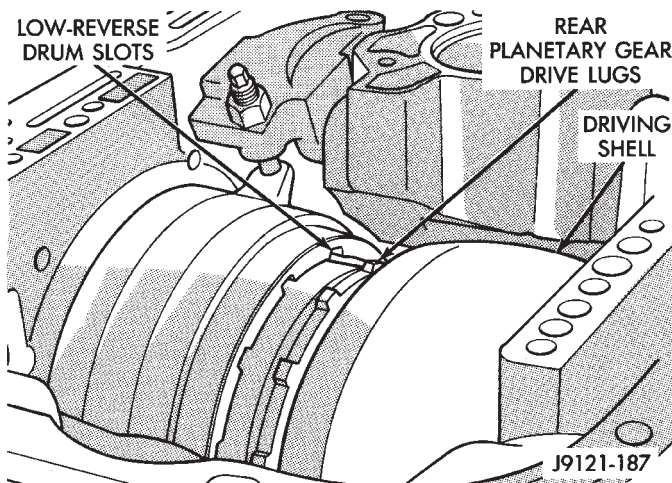

Fig. 140 Aligning/Seating Rear Planetary In Low-Reverse Drum
(3) Align drive lugs on rear planetary gear with slots in low-reverse drum (Fig. 140). Then seat planetary assembly in drum.